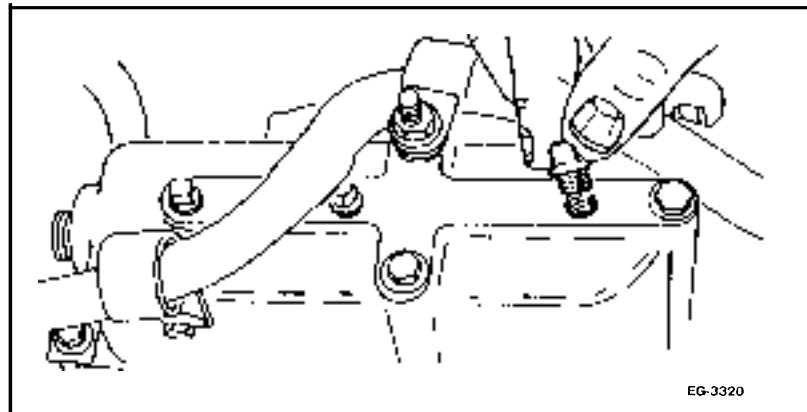

Figure 2.3-1. Checking Oil Level in Reservoir
4. Check oil level in reservoir. Figure 2.3-1.